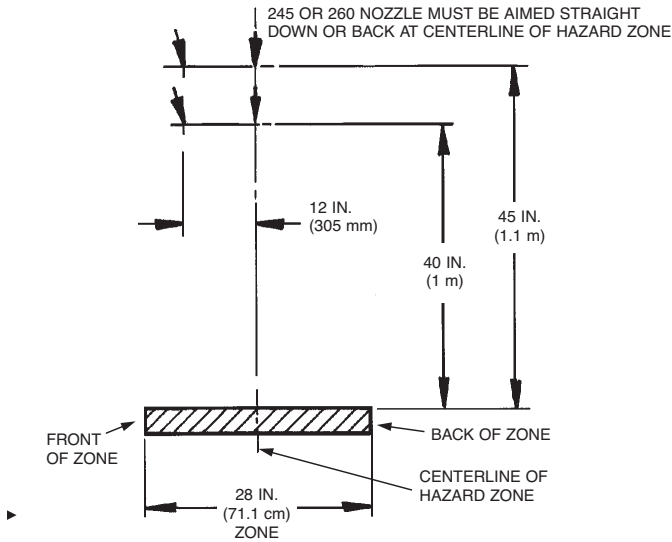

FIGURE 94
3. The overlapping appliance nozzles must be located 40 in. to 45 in. (1 m to 1.1 m) above the top surface of the protected appliances. See Figure 94.
4. The overlapping appliance nozzles must be located 0 in. to 12 in. (0 cm to 30.5 cm) forward of the centerline or aimline of the selected hazard zone. See Figure 94.